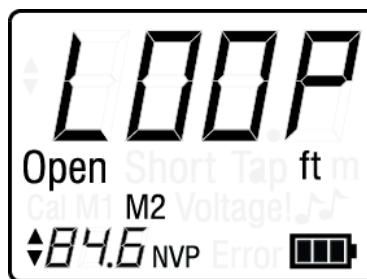

Figure 10. LCD Display Screen in Loop Testing
4. Press and hold down the TEST button for two seconds to run a continuous test. The following values and icons appear in the LCD display screen (see Figure 10):